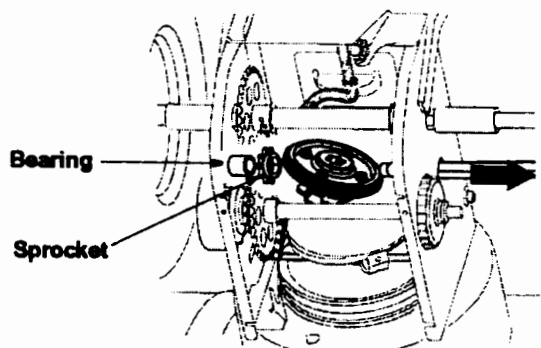

Figure 23
6. Holding the friction wheel assembly, slide the hex shaft to the right. See Figure 23. The spacer on right side of hex shaft may fall.